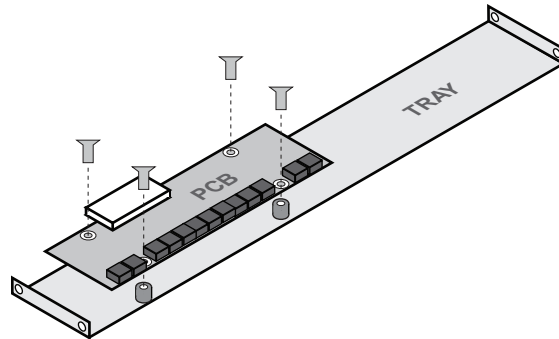

Figure 4.4 Installing the Breakout PCB on the Rack Tray
1. Position the Breakout PCB atop the screw posts on the tray. Refer to **Figure 4.4**.